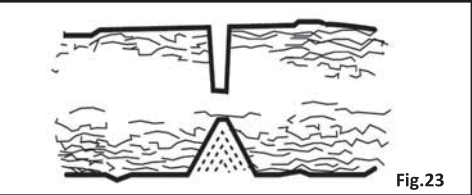

Fig.23
- Make one or more cuts at or near the point of maximum tension. Make as many cuts of sufficient depth as necessary to reduce the tension and make the tree or branch break at the point of maximum tension.(see figure 23)